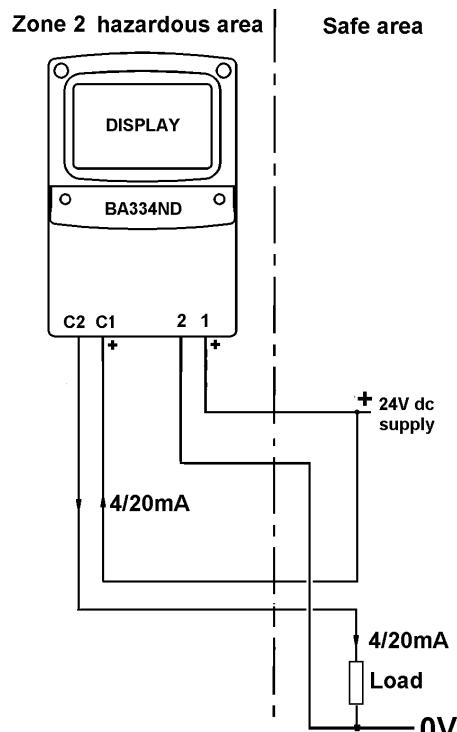

Fig 15 Application of 4/20mA output
**Note 2:** If the BA334ND and the 4/20mA current sink output are powered from separate supplies, the 4/20mA output current will continue to flow when the BA334ND supply fails or is turned off. Powering both from a common supply as shown in Fig 15 eliminates this effect.